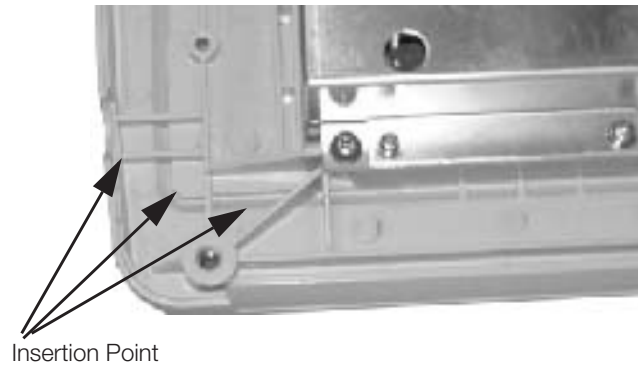
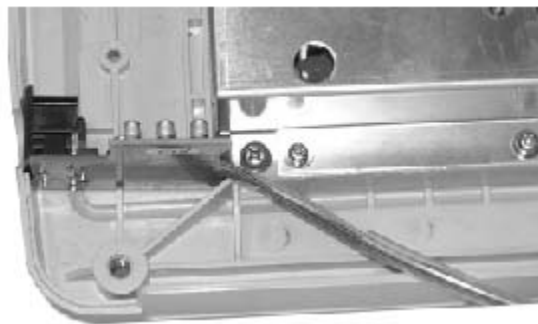

Figure 1-3. Insert PC Board
Figure 1-4. Installed Board
1. Install PC board to the chassis. See Figure 1-3 and Figure 1-4.